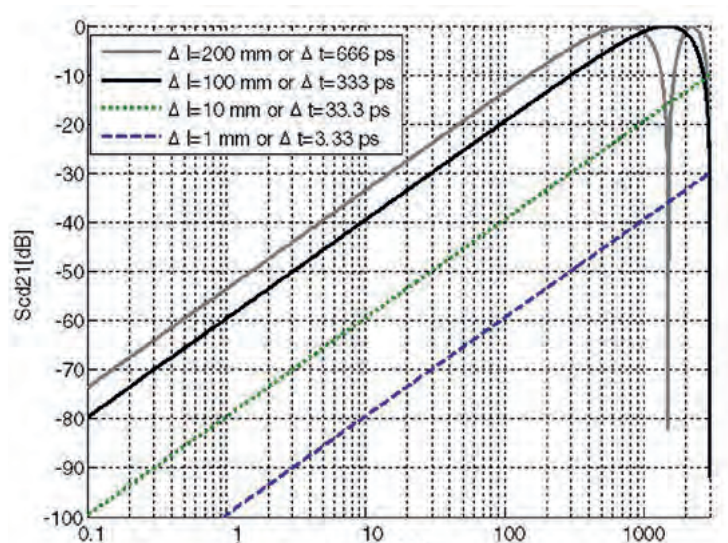

Figure 21: Mode conversion with differing conductor lengths
The length difference causes the conversion from differential mode (DM) to common mode (CM). In Figure 21 you can see that for a frequency of 1.5 GHz 100 mm length difference (black curve), a complete conversion from DM to CM has occurred. A frequency of 1.5 GHz corresponds to a wavelength of 200 mm in air, i.e. 100 mm corresponds exactly to a 180° phase difference and thus the differential signal on the input will become a CM signal by the phase offset and thus the differential voltage on the output is equal to zero. Frequencies above 1.5 GHz may again show a better mode conversion behaviour since the phase shift increases towards 360°. However, this is harmful for data transmission, since the receiver then sees different bits on the two wires at a given time.